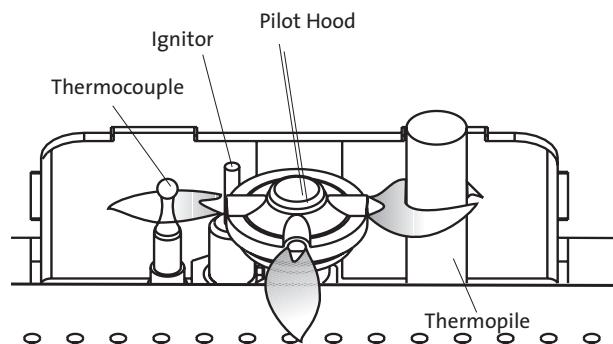

Figure 28. Correct Pilot flame pattern and Pilot Shutter location.
- PILOT FLAME:** The pilot flame should be steady, not lifting or floating. The flame should be blue in color around the pilot hood, with traces of yellow toward the outer edges. It is imperative that the pilot flame engulf the top $3/8$ " of the thermopile (power generator) and the top $1/8$ " of the quick drop-out thermocouple. The pilot flame should project out of the pilot hood $1"$ at all three ports, extending to reach the burner plate ports. See fig. 28.